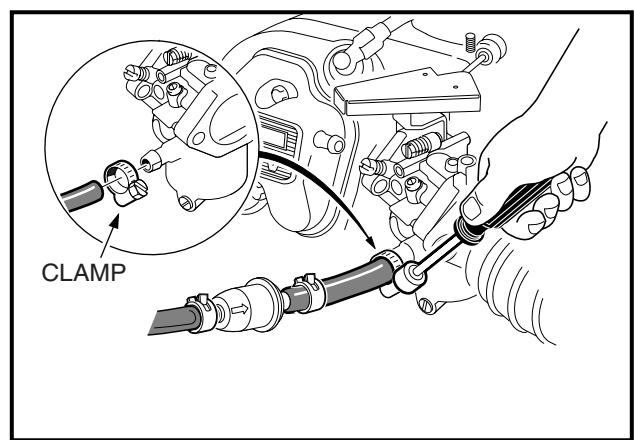

Figure 16-55 Connect Fuel Line
30. Pull fuel line from impulse line fitting of the fuel pump and connect it to the carburetor and secure with a hose clamp (**Figure 16-55, Page 16-21**).